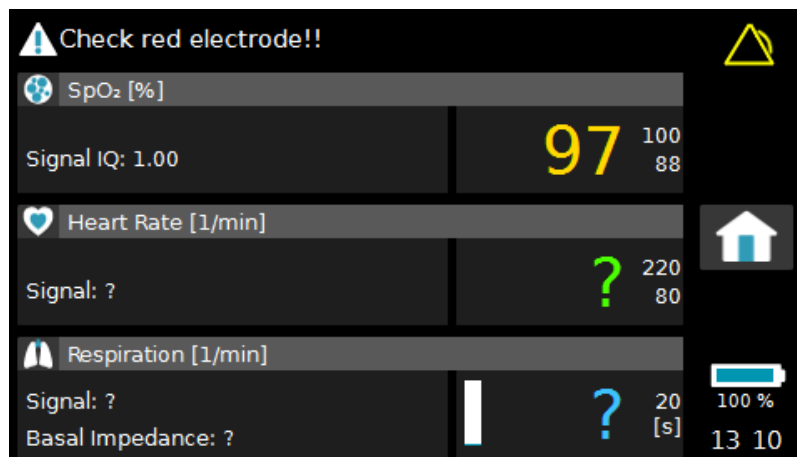

Fig. 39 Information on the Monitor Screen during a Technical Alarm
- the monitor screen outputs the following visual information, as shown in Fig. 39:
If vital signs cannot be measured due to a technical alarm, then the values for that parameter are replaced by a question mark symbol, as shown in Fig. 39 where an electrode is off the patient.